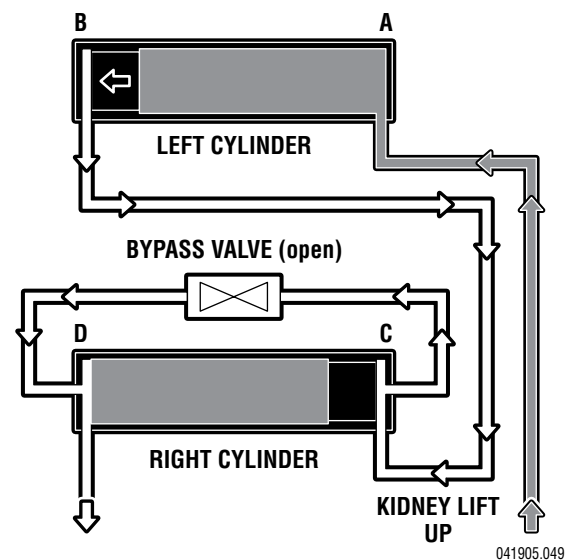

Figure 3-11.
3. Open the bypass valve by loosening the screw in the bottom of the valve and activate "KIDNEY UP". Hydraulic fluid fills cavity "A" and pushes the piston into cavity "B". The open valve allows a path for air to escape from cavity "B" without affecting the piston in "C". See figure 3-11.